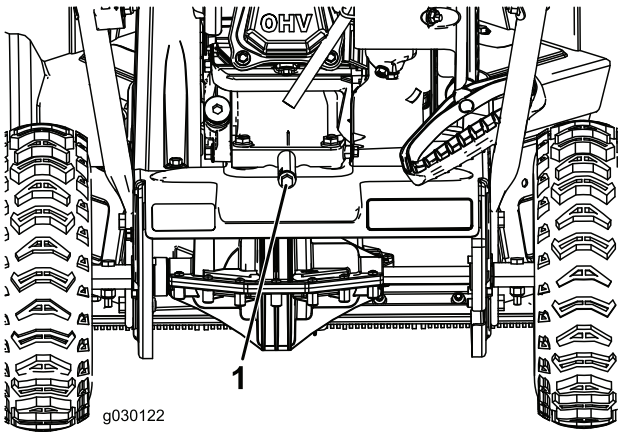

Figure 19
2. Place an oil-drain pan under the oil-drain plug, remove the oil-drain plug, and tip the machine backward and drain the used oil in the oil-drain pan (Figure 19).